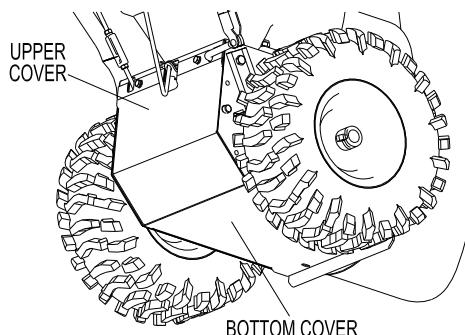

FIG 20
- 6.5.3 Remove the upper and the bottom cover. (FIG 20)
**6.8.3** Remove the upper and the bottom cover. (FIG 20)